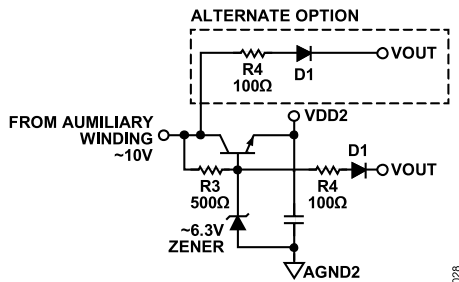

Figure 15. Recommended Circuit to Guarantee Hiccup Mode Showing Typical Values
2. When VDD2 is powered through auxiliary winding or another configuration, when a short circuit occurs on the output terminals, the auxiliary winding is not shorted and maintains a positive voltage above the UVLO threshold of the VDD2 pin. To enter hiccup mode, it is recommended to use the circuit shown in Figure 15. The circuit operates as follows: when the output voltage goes low due to a short circuit, the D1 diode turns on, which pulls the base of the bipolar junction transistor low, shutting off VDD2. The system then enters hiccup mode, as described in the Remote System Reset section.